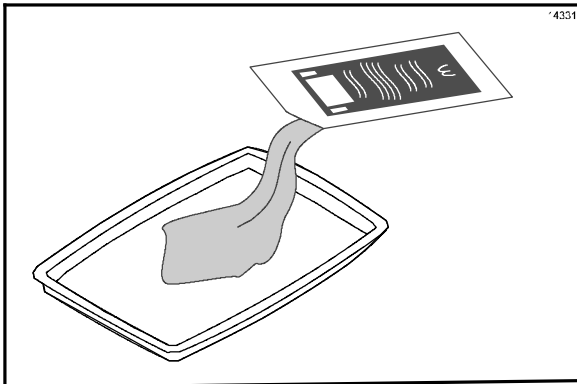

Figure 42
9. Open one packet of **McD Hi-Temp Grill Cleaner (HTGC)**. Empty the contents into a clean entrée base or stainless steel pan. (See Figure 42.)